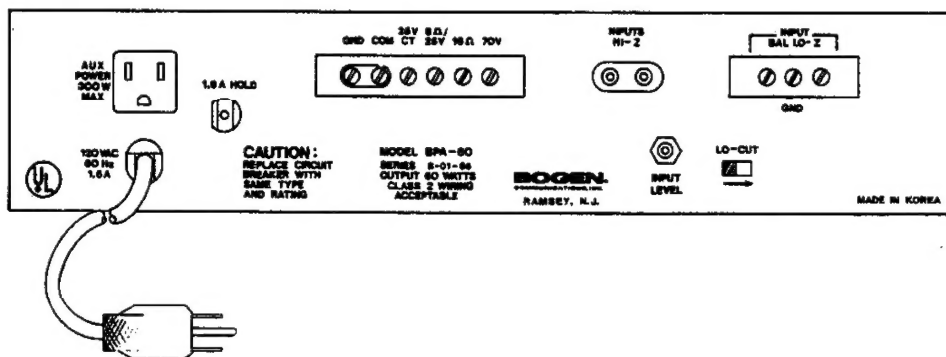
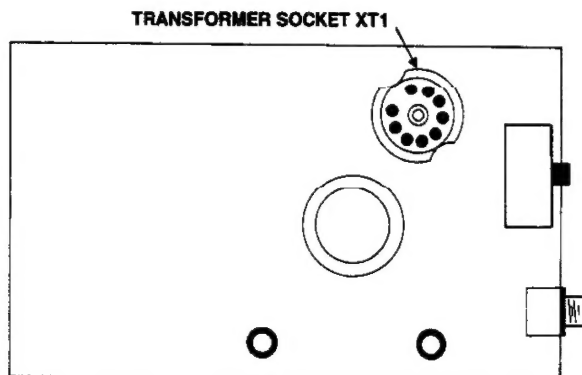

Figure 1 - RPA-60 Rear Panel Connection Diagram
Figure 2 - BPA-60 Printed Circuit Board
**LOW-IMPEDANCE BALANCED INPUT.** A balanced input, provided at the BAL LO-Z terminal strip (Figure 1), requires the installation of a Bogen Model TL600 line-matching transformer. Remove the top cover of the unit and install the transformer in the socket designated XT-1 (see Figure 2) on the printed circuit board. If an unbalanced input is required, connect a jumper from the GND terminal to an adjacent input terminal.
**HIGH-IMPEDANCE INPUT.** A high-impedance input is provided by standard RCA jacks (see Figure 1). An input signal of 300mV is required for full rated output.
**BRIDGING INPUT.** The inputs of two or more amplifiers may be paralleled by installing accessory transformer TL100 (for up to 6 amplifiers) in the transformer socket designated XT-1 (see Figure 2) on the printed circuit board. Connect the signal source to the BAL LO-Z terminal strip and connect the cable shield to the GND terminal. For an unbalanced input, connect a jumper wire from the GND terminal to an adjacent input terminal.
Figure 1 shows the location and impedance values for the output terminal strip. Class 2 wiring is acceptable for output loads.